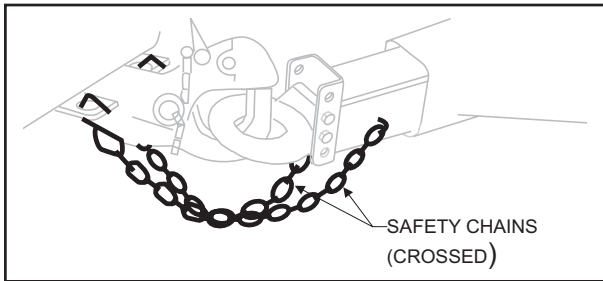

Figure 18. Safety Chain Arrangement for a Pintle Eye Hitch
- cross underneath the coupler (see Figure 18)